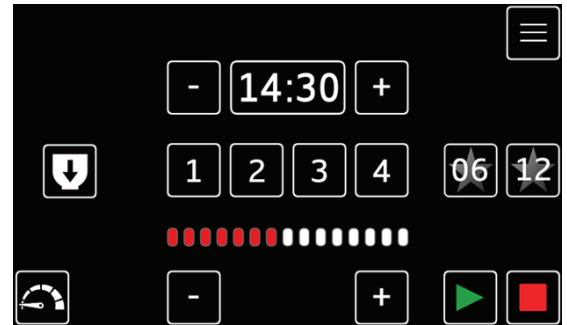

Figure 17-1.
1. Select the main menu button in the top right corner of the display screen. (Figure 17-1).
4. Select the green “play” button to start the recipe. (Figure 17-1).